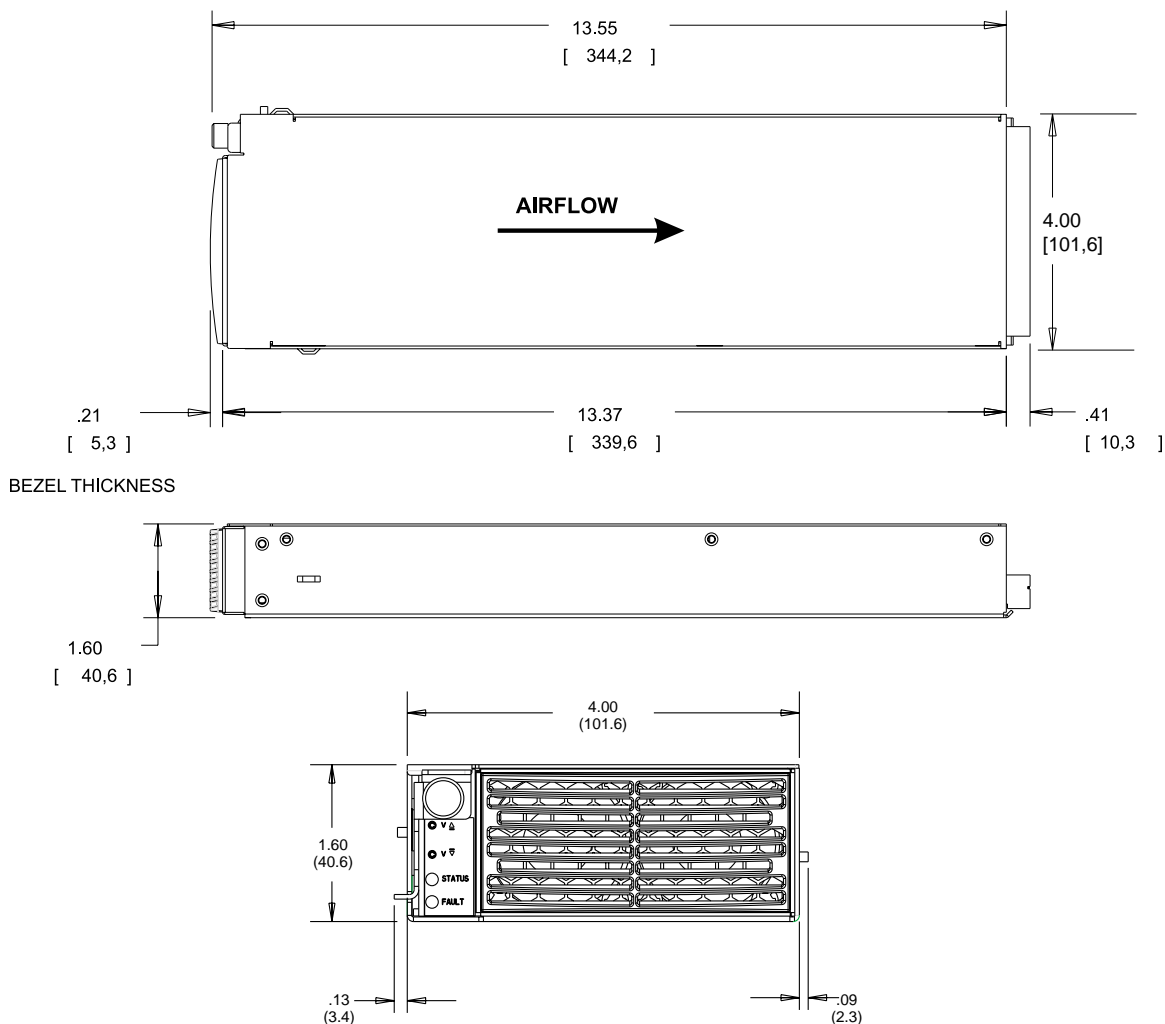

Figure 5 - Module Dimensions
12.1 Input Voltage and Connection - The BLUEstreak Series operates from worldwide AC input voltages in the range of 85 to 264 VAC at 47 to 63 Hz. There are restrictions to the available total output power when operating at low line, 85-132VAC. The three-wire AC connection is made to pins P1, P2 & P3 on the rear mounted connector. See the connector diagram and Pin Connections table in Figure 5.